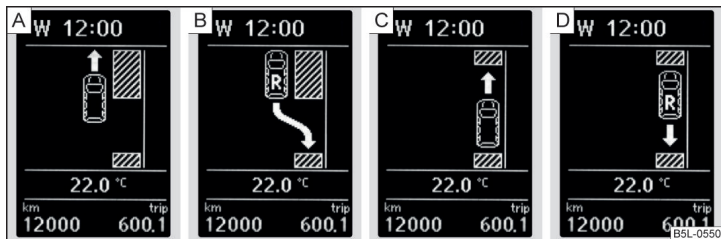

Fig. 150 Display
Display » Fig. 150
If the system finds a parking space, then this parking space is displayed » Fig. 150 - **A**.
- Continue driving forwards until the display appears » Fig. 150 - **B**.
- If the arrow in the display is flashing to the front » Fig. 150 **C**, engage 1st gear or move the selector lever into the position **D**.
- If the backwards arrow is flashing in the display » Fig. 150 - **D**, select reverse gear again or move the selector lever into position **R**.